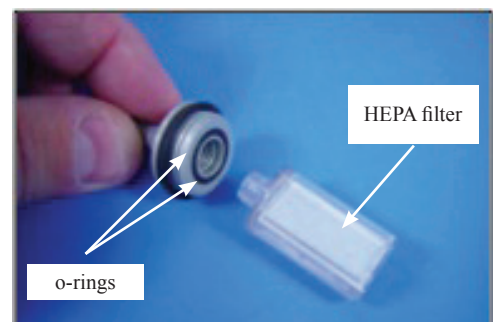

Figure 6-4. Reinstall O2 Fitting/HEPA Filter
6.4.2 Using a 3/8" open end wrench, remove the O2 Fitting/HEPA Filter shown in figures 6-4.
6.4.3 Unscrew the HEPA Filter from the O2 Fitting as shown in figure 6-4.
**NOTE:** Ensure that the O-Rings shown in figure 6-4 are positioned correctly before re-installation.